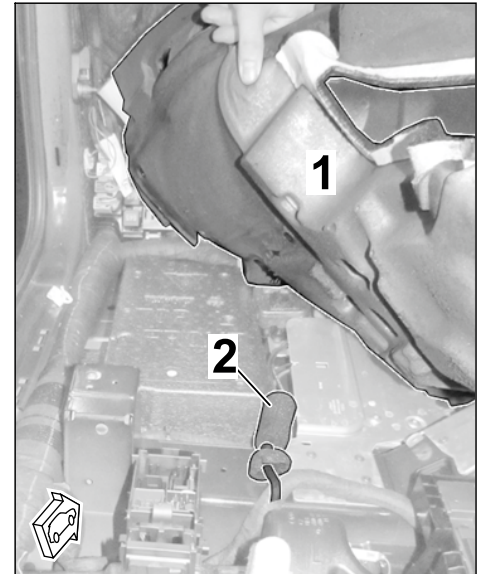

Figure 21
2.3.4 Loosen the front left floor covering (⇒ *Workshop Manual '704119 Removing and installing the front floor covering'*) and fold it back as far as possible (⇒ *Figure 21*).